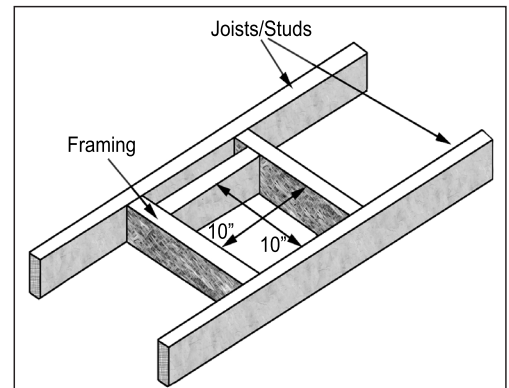

Figure 28. Vent Framing For Wall or Ceiling.
A 10" (254 mm) x 10" (254 mm) frame (see Figure 28) will assure the proper support and spacing for the vent pipe as it passes through the wall. Installations in Canada require that a wall thimble be used for passing through walls and ceilings. All sealing and vapour barriers must comply with local building codes.
Step 3. With the pipe in the correct position and attached to the fireplace, mark the wall for a 10 inches (25.4 cm) x 10 inches (25.4 cm) square hole (see Figure 28). The center of the hole should match the center line of the horizontal pipe. Cut and frame the hole in the exterior wall where the vent will be terminated. If the wall being penetrated is made of a non-combustible material (i.e. masonry or concrete) a 7 inches (17.8 cm) hole is acceptable.
- Step 3.** To install the Round Support Box/Wall Thimble in a flat ceiling, cut a 10 inch (25.4 cm) square hole in the ceiling, centered in the hole drilled in Step 2. Frame the hole as shown in Figure 28.